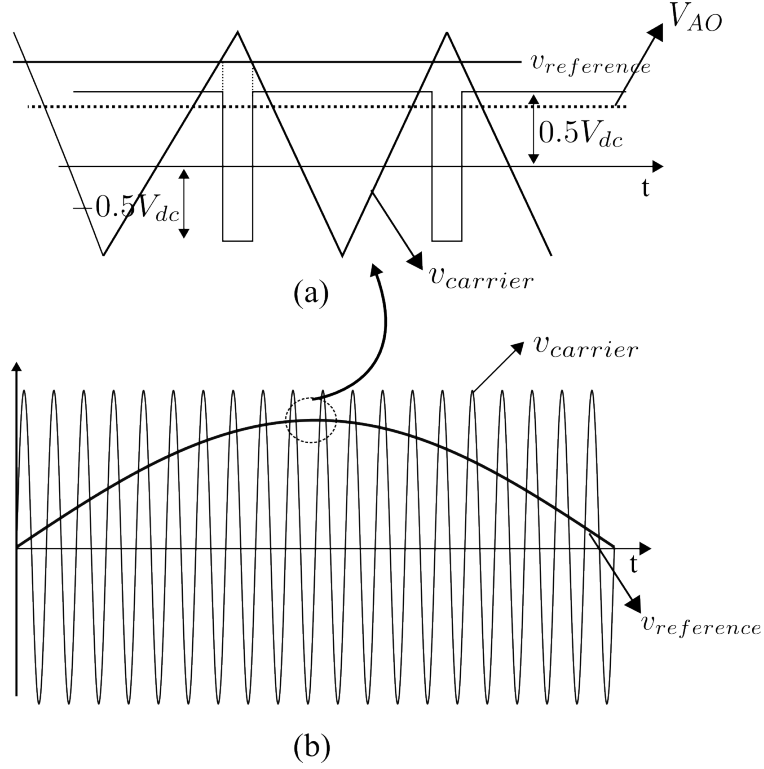

Figure 3: Output voltage waveform over one switching time period of carrier wave
Assuming $v_{reference}$ is constant (as shown in Fig. 3 (a)) over a switching time period, the eq. (1) indicates how the instantaneous average value of V_{AO} varies from one switching period to next. This instantaneous average is the same as the fundamental frequency component of V_{AO} .